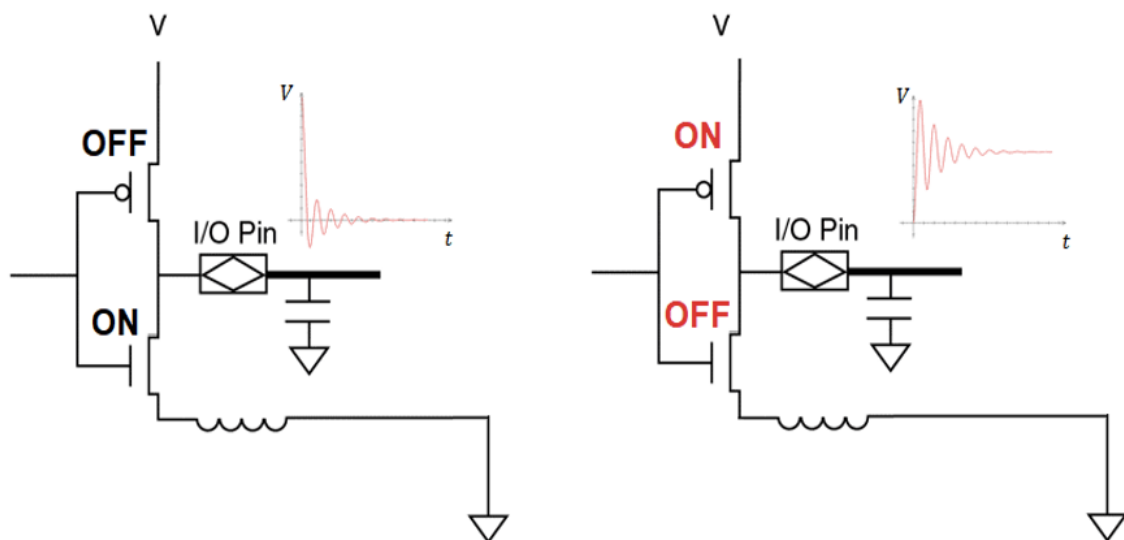

Figure 2 Ground Bounce and Power Ripples
**Power ripples:** When a transient current propagates voltage fluctuation on the positive rail, it creates noise, or ripples, in the circuitry. These are not the same as the rectified AC output signal. These waves can cause crosstalk in other circuitry that can degrade the signal quality in those circuits. The current flow route and the parasitic items present in the current's route separate the two effects. Figure 2 shows the typical use case for ground bounce and power rail ripple.